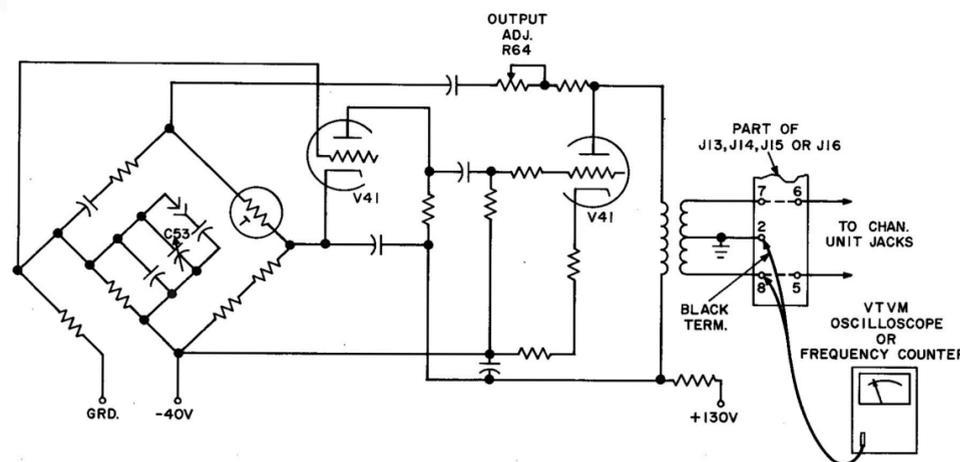

Fig. 1 - 3700-Cycle Oscillator
3	<p>Connect the VTVM to terminals 8 and 2 of the KS-13895 plug. The ground side (black terminal) of the W2DW cord should be connected to terminal 2. (See Fig. 1 and 2.)</p> <p>Requirement: Line-up +3.8 db. Maintenance +3.0 to +4.5 db.</p> <p>Note: If this requirement is not met, check the oscillator tube according to Section 362-020-502.</p>
4	<p>Connect the oscilloscope to terminals 8 and 2 of the KS-13895 plug. (See Fig. 1 and 2.) The ground side of the oscilloscope should be connected to terminal 2.</p> <p>Requirement: The peaks of the sine wave should be rounded with no evidence of flattening.</p> <p>Note: If the requirement is not met, replace the oscillator tube (V41) and adjust the output level if necessary. If the requirement is still not met, replace the oscillator unit. If the requirement is still not met, check for a condition in the terminal which would cause abnormal loading of the 3700-cycle oscillator output circuit.</p>
3	<p>Connect the frequency counter (or 72A frequency meter) to terminals 8 and 2 of the KS-13895 plug. (See Fig. 1 and 2.) The ground side of the counter should be connected to terminal 2.</p> <p>Requirement: Line-up 3700 cycles Maintenance 3690 to 3710 cycles</p> <p>Note: Before making any frequency adjustment, check the oscillator tube according to Section 362-020-502. If the tube is replaced, repeat Tests (A), (B), and (C). If the tube is good and the maintenance requirement is not met, adjust capacitor C53 on the rear of the oscillator unit. Important: Do not short to ground the tuning slot (end of rotor shaft) of the C53 capacitor as this will blow the -40 volt group unit fuse. If there is no access to the back of the oscillator unit, make the adjustment according to Test (D).</p>